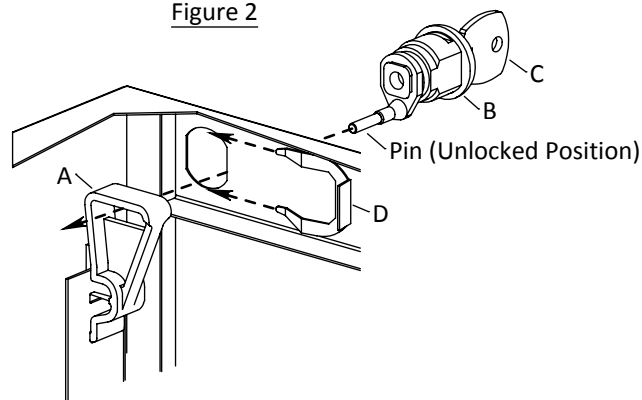

Figure 3
4. Insert the Lock (B) and Key (C) through the knock-out hole with the pin located in the unlocked position. Align the pin to fit through the opening on the Lock Bar Attachment (A). (Fig. 3)
5. Inside the cabinet, slide the Spring Clip (D) into the grooves on the Lock (B). (Fig. 3)